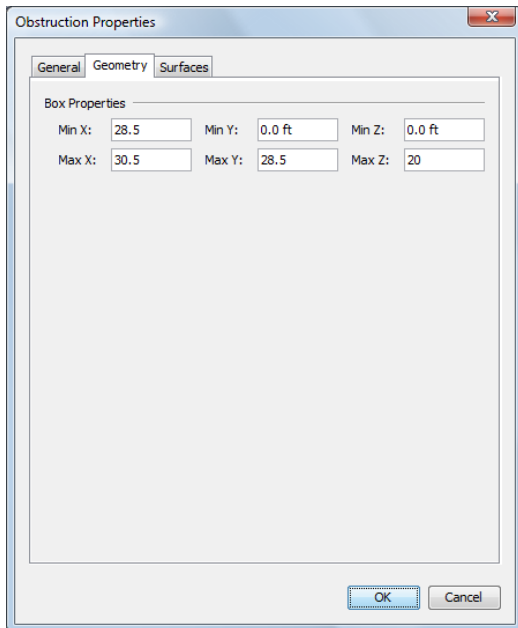

Figure 6.9. Input for the wall dividing the two rooms
4. Click on the **Geometry** tab. In the **Bounding Box** boxes, enter the values listed in Table 6.8 and shown in Figure 6.9.